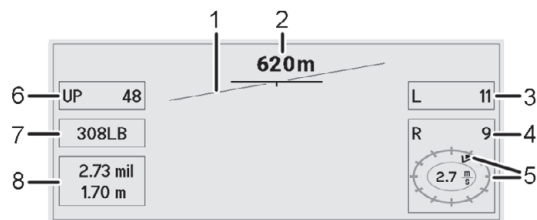

Fig. 3
Any references in the text to figures and item numbers in the images are indicated in parentheses. Example: (3/4) means fig. 3, item 4.
3. If necessary, correct the wind direction with the buttons "to the right / to the left". To do this, press the buttons until the wind direction arrow (example Fig. 3: wind is coming from the "1 o'clock" direction) shows the correct wind direction.
- To go back to the first menu (Fig. 3): press the On/Off button (3/1) again briefly.